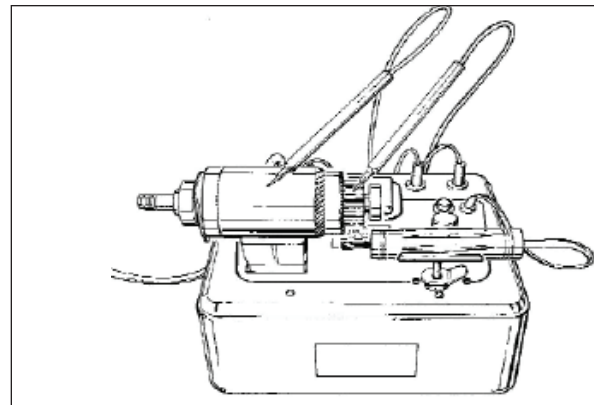

Figure 10-12. Checking Armature for Grounded Circuits
1. Check armature for grounded circuits by placing one test lead of a Dielectric Breakdown Tester, also referred to as a “growler”, on the commutator and other lead at armature shaft. The ground test light should not flash. A flash indicates failed insulation between core and armature wiring. See Figure 10-12.